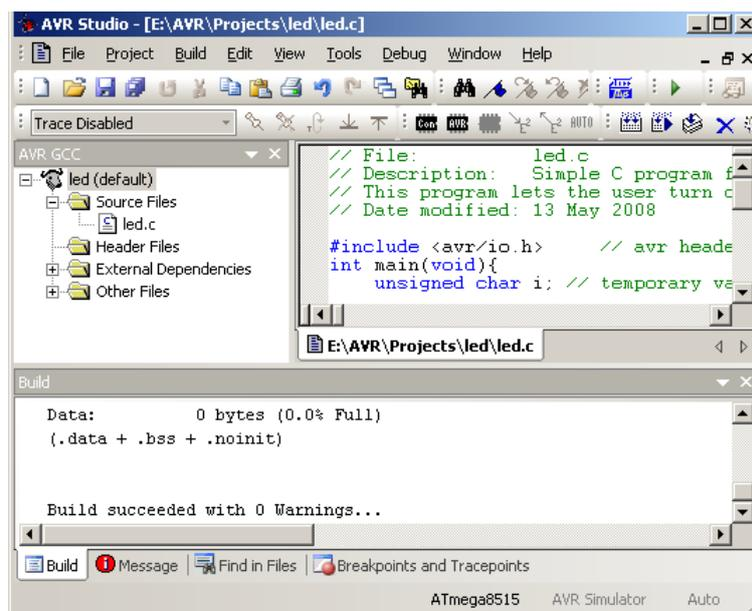

Figure 5: Selecting menu Build | Rebuild All to create HEX file.
- If there is no error message, a file called led.hex will be produced (see Figure 5). This file contains the machine code that is ready to be downloaded to the ATMEGA16 microcontroller. The file is stored in sub-folder '\default' of your project.